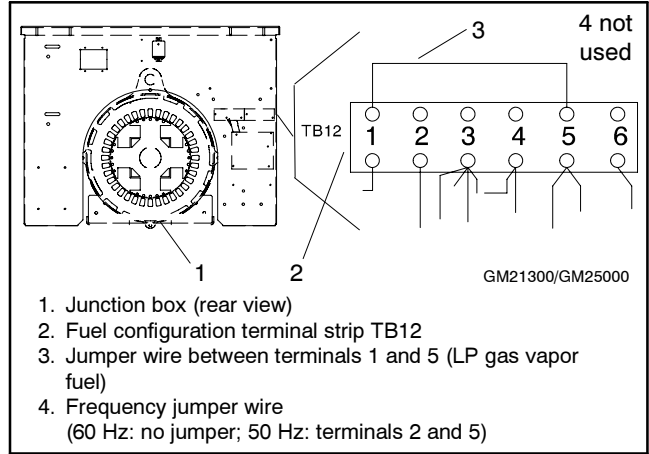

Figure 7-35 Fuel Configuration Jumper Wire (LP Fuel, 60 Hz, 80-125 kW Models)
- Remove the right side panel of the junction box and locate the fuel configuration terminal strip TB12. See Figure 7-35.
- Attach a user supplied 18-ga. jumper wire between terminals 1 and 5 (LP gas vapor fuel). See Figure 7-35 for frequency jumper wire requirements.